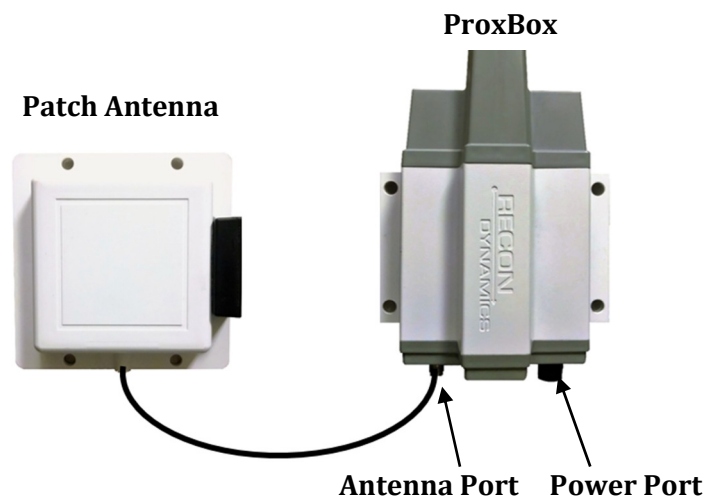

Figure 2
- Connect cable to ProxBox and hand tighten. Refer to Figure 2 for ProxBox port identity.
- The ProxBox power connector is keyed. Inspect the connector on the ProxBox and power cord connector and properly align keys. Once the power cord is fully seated on to the power connector a final $\frac{1}{4}$ turn clockwise is required to secure the power connection. Refer to Figure 2 for ProxBox port identity.